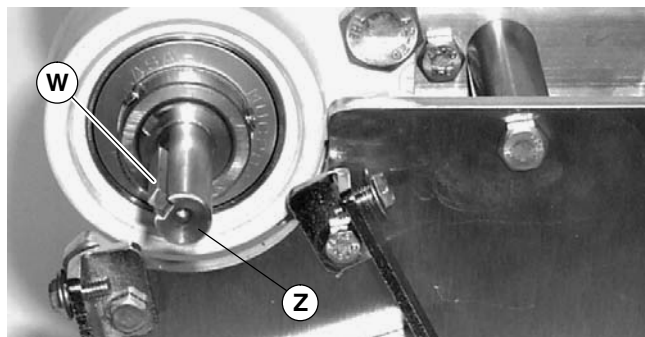

Figure 7
1. Install key (W of Figure 7) into conveyor drive shaft (Z).
3. Wrap timing belt (L of Figure 7) around driven pulley (M) and drive pulley (Q). Attach driven pulley (M) to conveyor shaft.